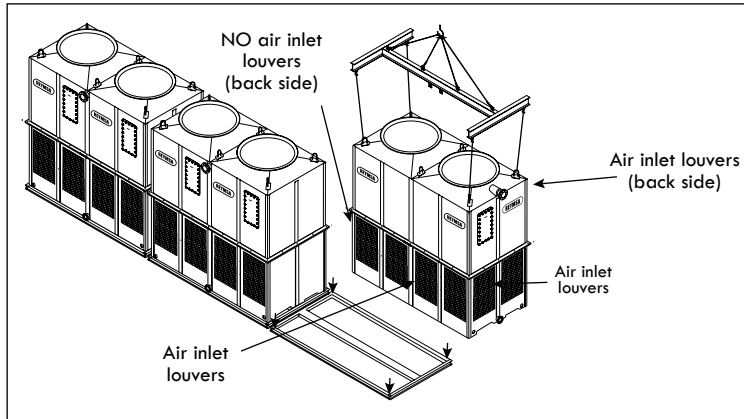

Figure A-71: S-Orientation - Last T1 module lifting and installation (RTM-B-S or RTPM-B-S)
- C. Lift and install the last module. This module should have 3 air inlet sides (two large sides and one short side). See Figure A-71 for reference.